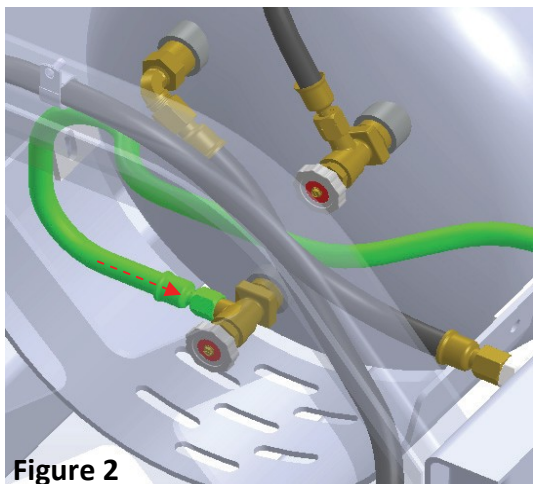

Figure 2
- 3) Connect service evacuation hose to the Liquid Evacuation Service Valve. **Torque: Fully Seated Not Stripped, Not Leaking. Figure 2**